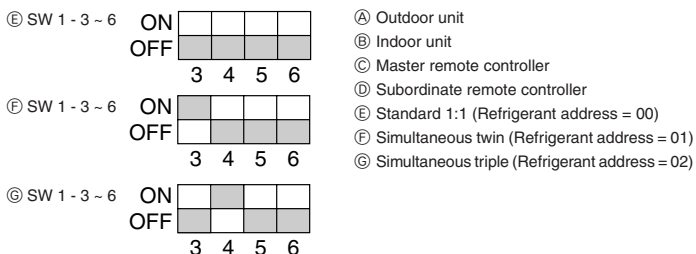

Fig. 10-1
- Because the unit automatically stops in about two to three minutes after the refrigerant collecting operation (LED1 and LED2 are lit), be sure to quickly close the gas stop valve. When LED1 and LED2 are lit and the outdoor unit is stopped, open the liquid stop valve completely, and then repeat step ③ after three minutes have passed.
10. System control (Fig. 10-1)